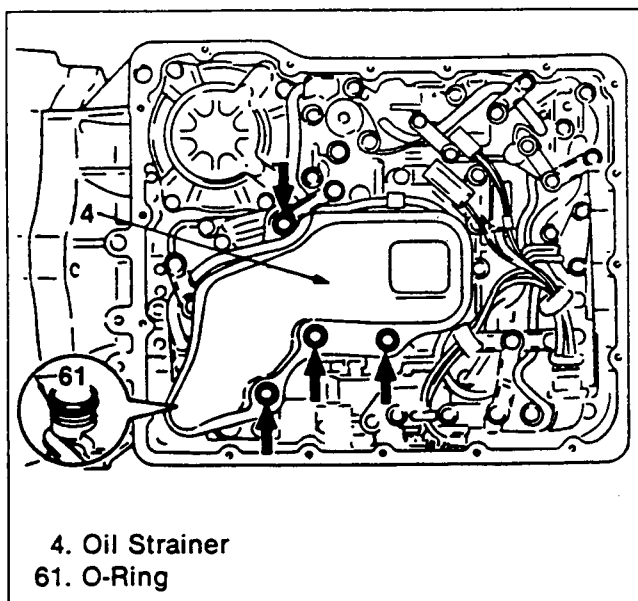

Figure 298. Oil Strainer Installation
Oil Strainer (Figure 298)
2. Attach the oil strainer to the control valve (figure 298).